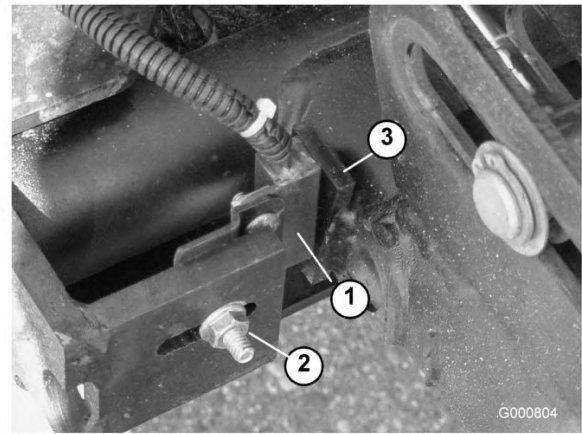

Figure 91
- Loosen the carriage bolt nut securing the lift arm switch bracket to the #4, 6 or 7 lift arms (Figure 91). #4 shown in figure.